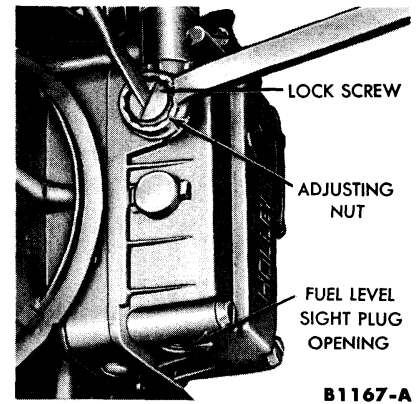

FIG. 11—Holley 4-Barrel Fuel Level Adjustment
1. **With the engine stopped,** loosen the lock screw on top of the fuel bowl just enough to allow rotation of the adjusting nut underneath (Fig. 11). **Do not loosen the lock screw or attempt to adjust the fuel level with the engine running because the pressure in the line will spray fuel out and present a fire hazard.**